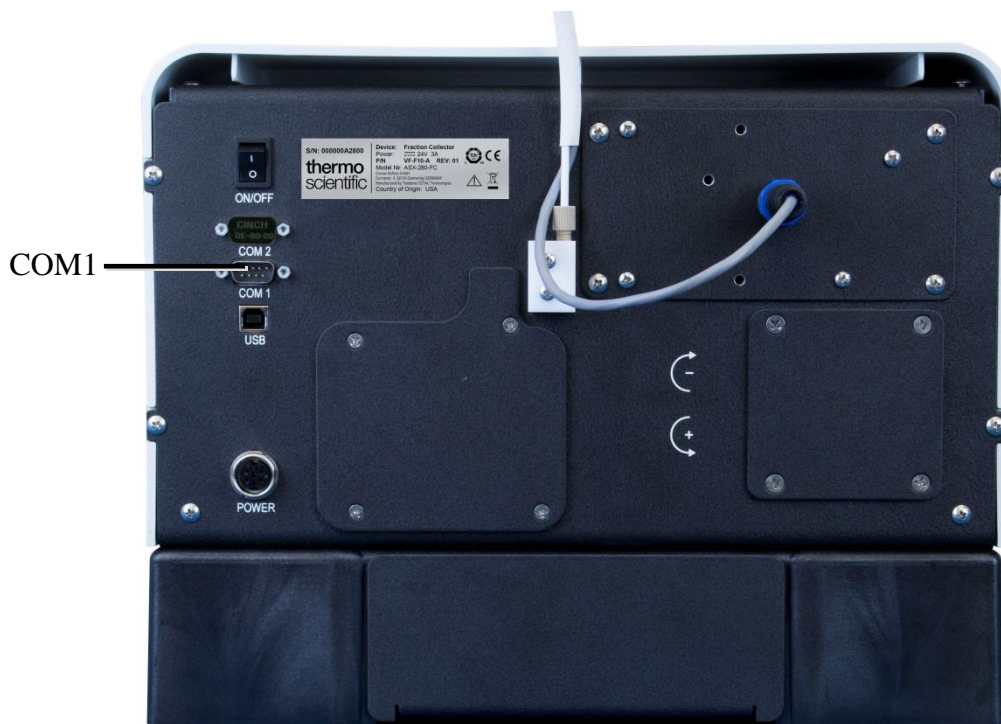

Fig. 26: COM1 Port
1. Connect the cable to **COM 1** serial (RS-232) port on the rear panel of the fraction collector (→Fig. 26).